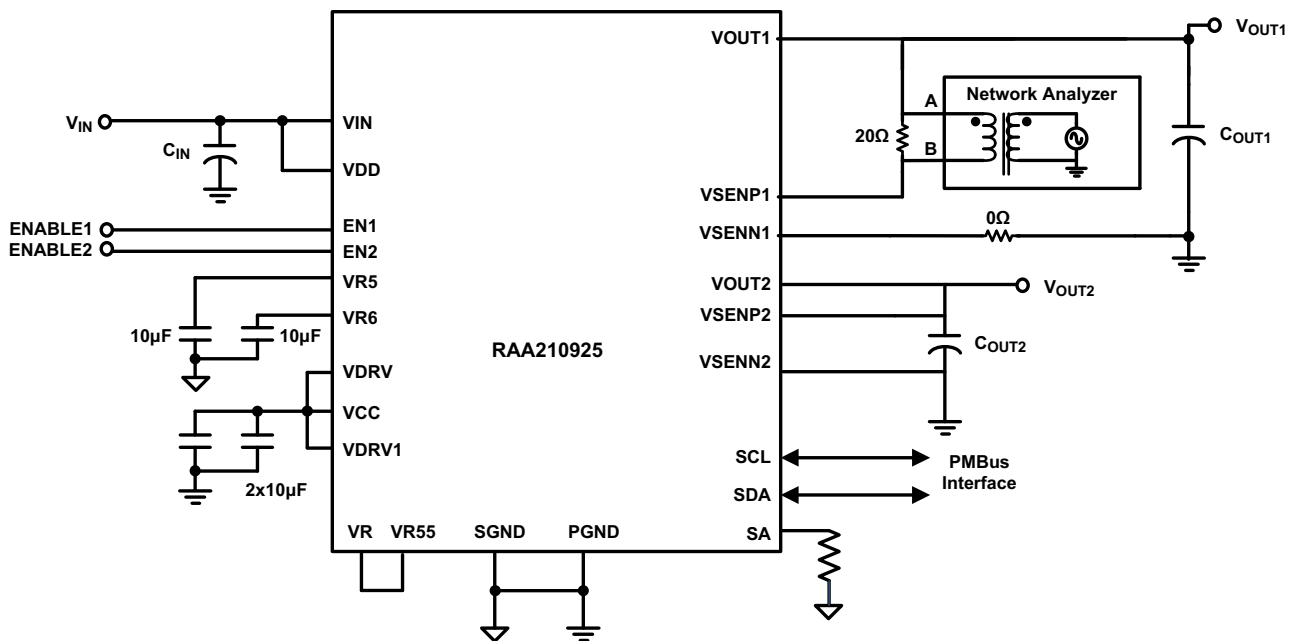

Figure 3. Network Analyzer Connection
- (1) Break the feedback loop by removing resistor R_{11} in remote sense path, connected between VSEN+ and VOUT.
- (2) Solder a 20Ω resistor in R_{11} 's place. The value of the resistor should be in the range of 10Ω to 50Ω .
- (3) Solder a twisted wire pair to the 20Ω resistor. Ensure that the wires are short in length. A small twisted pair works well by minimizing noise pickup, which is important for a good measurement.
- (4) Enable Channel 1.
- (5) Use a network analyzer to inject a small AC signal ($\sim 20\text{mV}$) across the 20Ω resistor as shown in Figure 3 on page 8.
- (6) Measure the amplitudes of the signals at points A and B as shown in Figure 3 on page 8.
- (7) Sweep the frequency using the network analyzer to observe the bandwidth, phase, and gain margin.